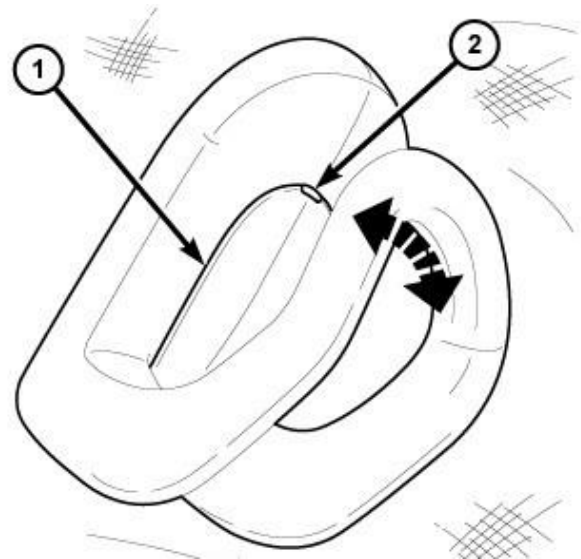

Figure 34 – Coat Hook
24. Using a small flat bladed tool, open the coat hook screw cover (2) then remove the screw and coat hook (Figure 34).
41. Position the coat hooks (5) onto the headliner and install the screws tightening securely into the mounting clips then close the screw cap fully (Figure 34).